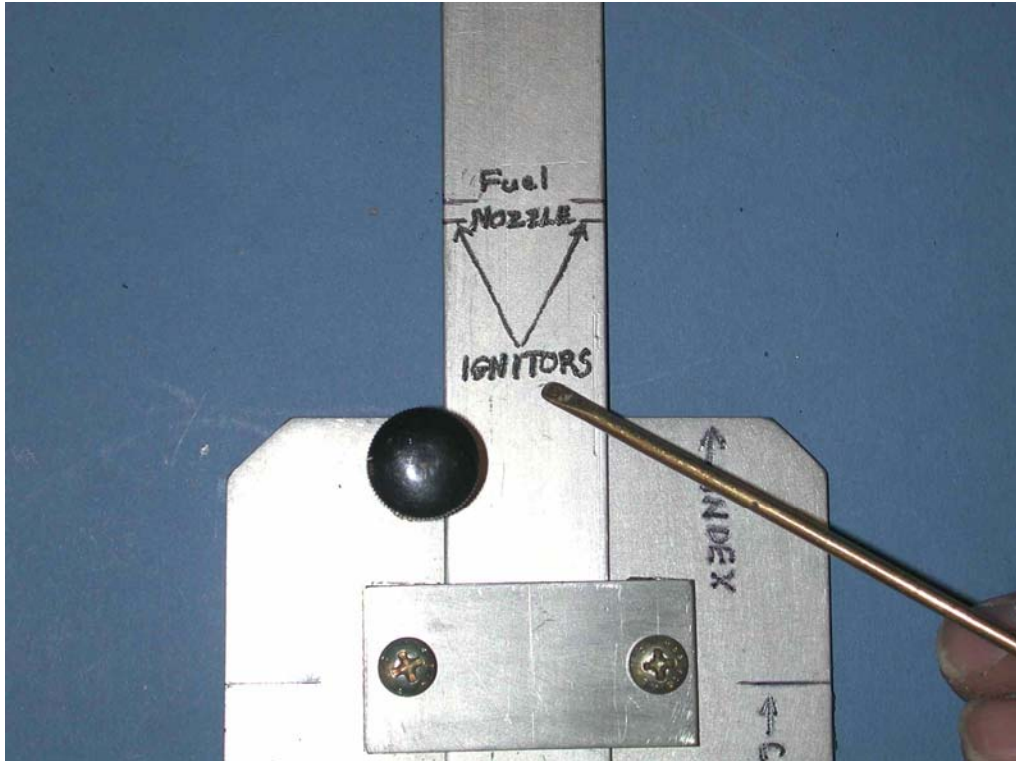

Figure 4: Ignitor Depth Mark
- Using dipstick, adjust ignitor depth. See Figure 4.